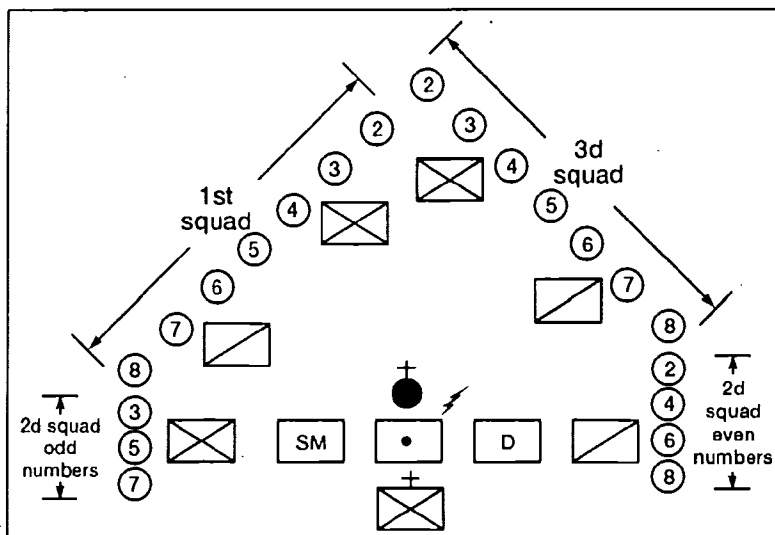

Figure 191-379-5400-12. Platoon Wedge with One Squad in Lateral Support
11. Form the platoon in a platoon wedge with one squad in lateral support (figure 191-379-5400-12).